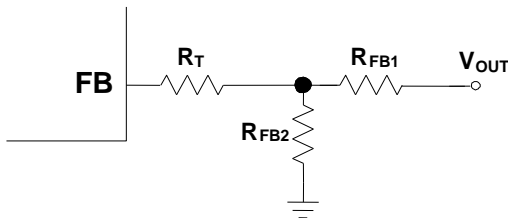

Figure 4: T-Type Feedback Network
The external resistor divider connected to FB sets the output voltage (see Figure 4). The feedback resistor (R1) also sets the feedback loop bandwidth with the internal compensation capacitor. Choose R_{FB1} to be about 40k Ω when $V_{OUT} \geq 1V$. R_{FB2} can then be calculated with Equation (1):
A T-type network is highly recommended when V_{OUT} is low (see Figure 4).